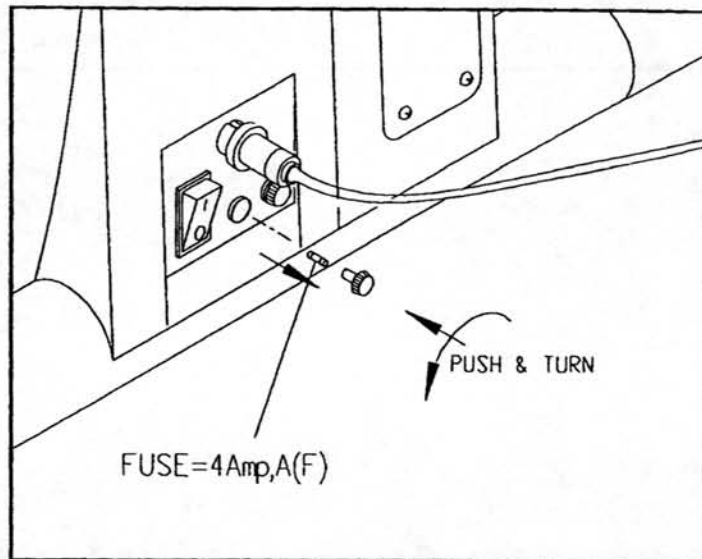

Fig.7-1
1. Push in the FUSE HOLDER and then turn them counterclockwise and the FUSE HOLDER with FUSE will protrude (see fig. 7-1).